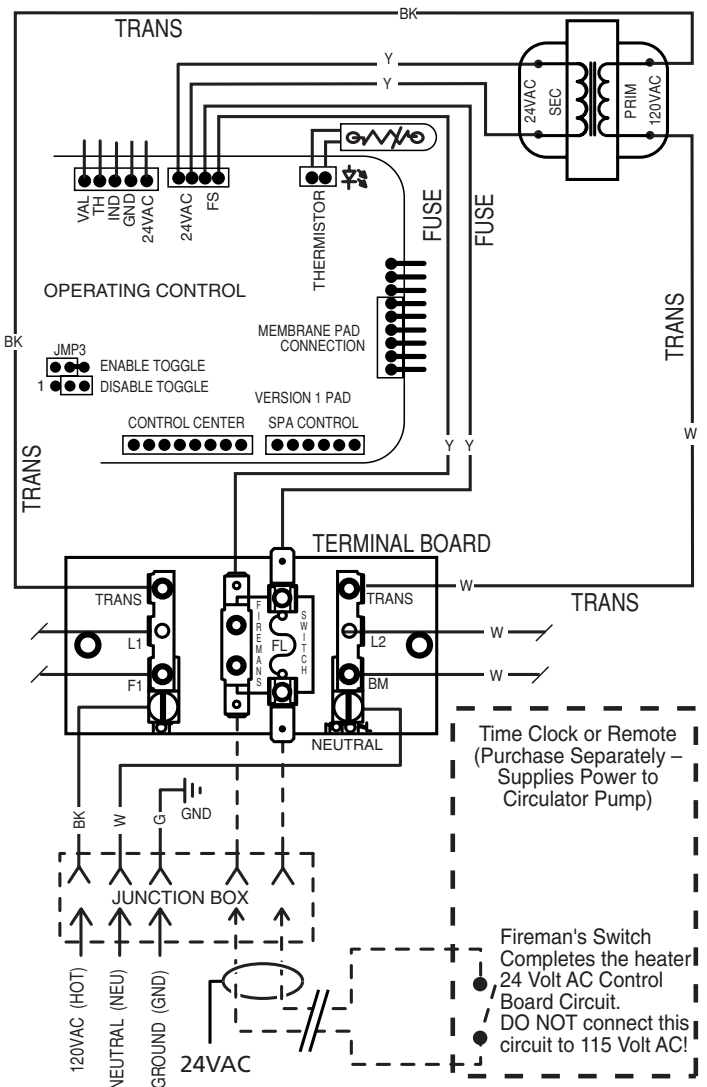

FIGURE 25: Fireman's Switch Connections
4. Remove the factory-installed jumper between the Fireman's Switch terminals (see Figure 25).